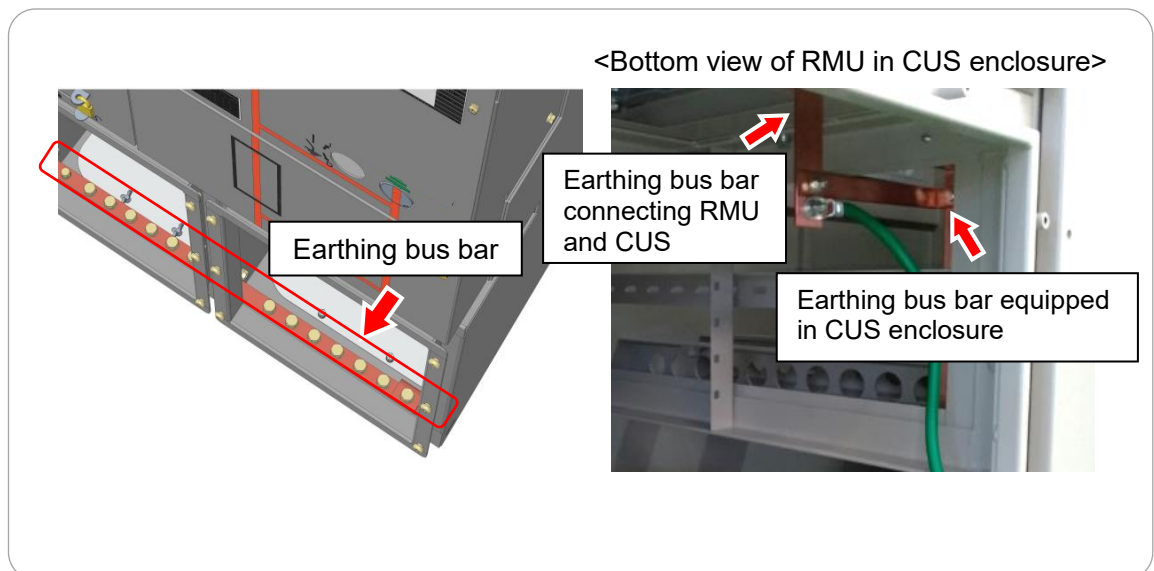

Figure 26. Earthing connection point
- ① Open the door of RMU compartment, and remove the cover below the RMU compartment door.
- ② OPEN the LBS and CLOSE the earthing SW of transformer feeder to unlock the mechanical interlock of cable compartment cover, and then open the front cover of transformer feeder cable compartment according to the clause 8.2.1.
- ③ Ground the RMU by connecting the earthing bus bars of RMU and CUS enclosure. Grounding shall be in accordance with the regulation of the installation site. [Figure 26]